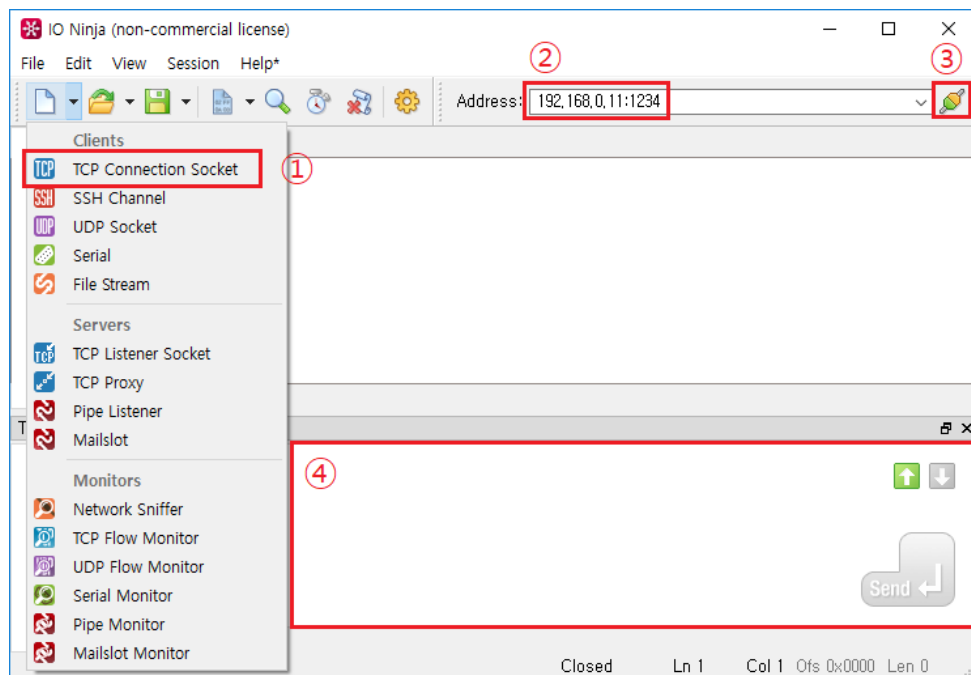

Figure 8: IO Ninja – TCP Client Socket Setting
- a. Select **TCP Connection Socket** (1, Figure 8).
- b. Enter the IP address and the port number of DA16200 (2, Figure 8).
- c. Click  to connect the socket (3, Figure 8).
- a. Send data (4, Figure 8).